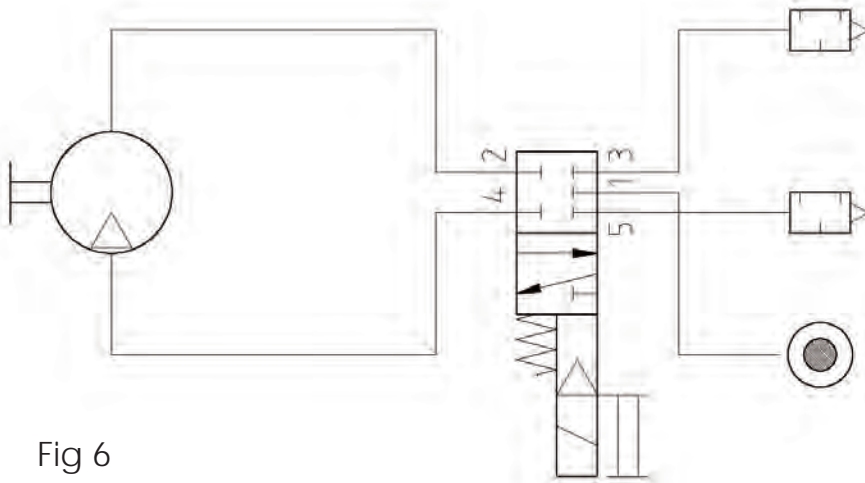

Fig 6
- Fig 6 shows single direction rotation.